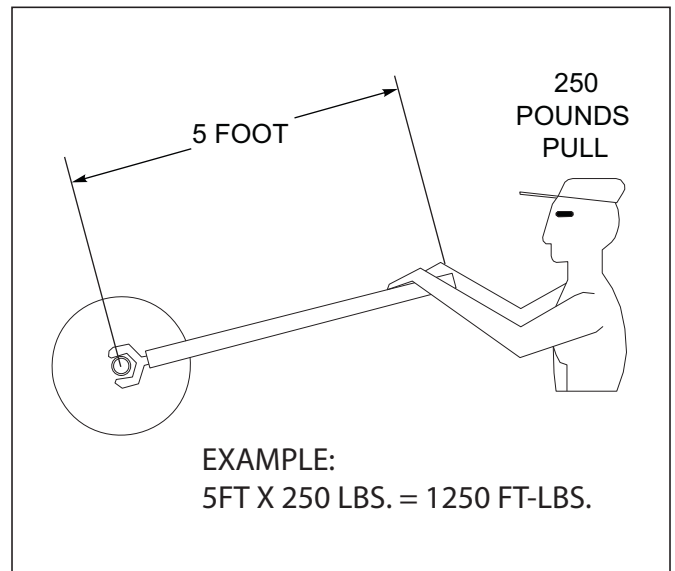

Figure 4-12: 1,250 Foot-Pounds of Torque
3. When reassembling the disc gang, remove any soil or mud from the disc blades and spools to ensure a clean surface when tightening the gang. Clean the gang threads and install the gang nut. Torque the disc gang shaft to a minimum of 1250 ft-lbs **See Figure 4-12**.